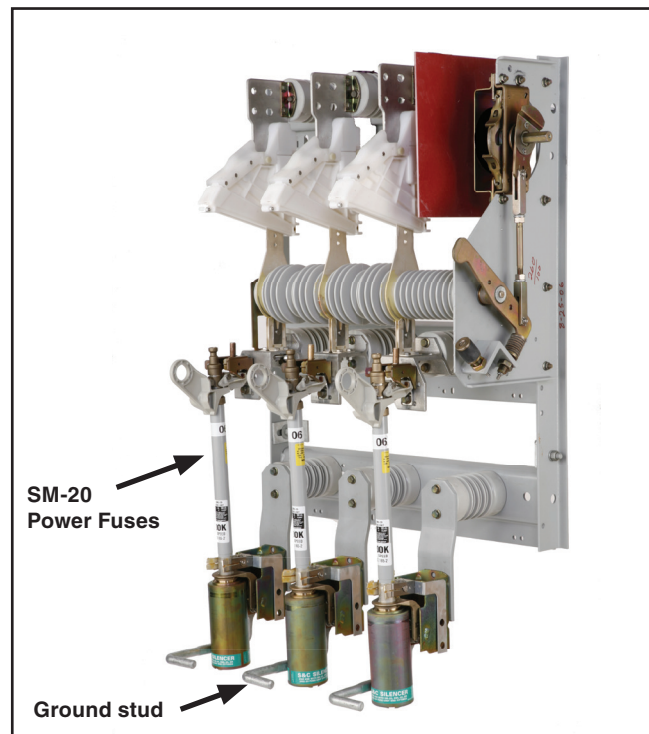

Figure 5. A Mini-Rupter Switch with Power Fuses, back-supported frame style.
STEP 7. If a Mini-Rupter Switch with Power Fuses is furnished, such as is the one illustrated in Figure 5, check each pole of the fuse live parts and make necessary adjustments as follows: